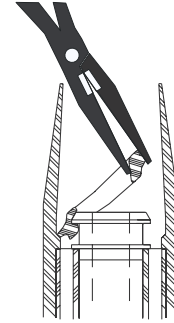

Figure 8-18. Removing the Valve Seal from the End Cap.
1. Use a sharp knife or hack saw to cut through the Valve Seal (17). Using a large screw driver or needlenose pliers, pry the Valve Seal from the End Cap. Discard the Seal. See Figure 8-18.